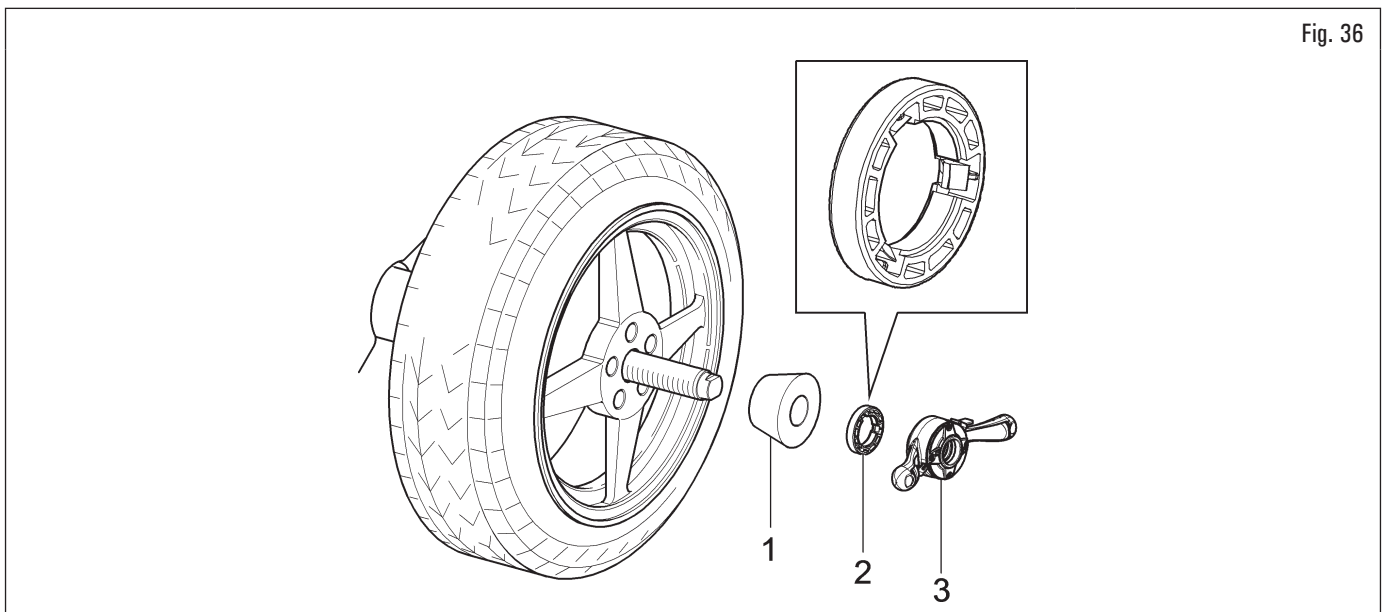

Fig. 36
3. carefully choose the cone (Fig. 36 ref. 1) most suitable for the wheel to be balanced. These accessories must be selected according to the shape of the rim. Fit the cone (Fig. 36 ref. 1) with the narrowest part turned towards the wheel;
4. fit the pressure ring (Fig. 36 ref. 2) in the nut (Fig. 36 ref. 3) and fasten the cone (Fig. 36 ref. 1).
The pressure ring (Fig. 36 ref. 2) must be mounted with the teeth or discharge side towards the ring nut (Fig. 36 ref. 3 or 4).